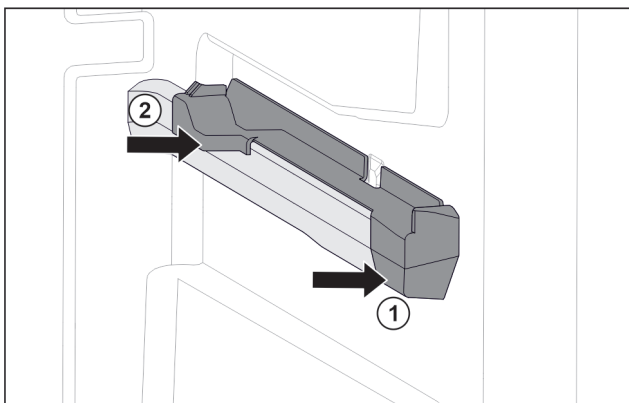

Fig. 79 Attachment on the right moulded rib
- Position attachment on moulded rib at the front. Fig. 79 (1)
- Press on attachment at the back. Fig. 79 (2)